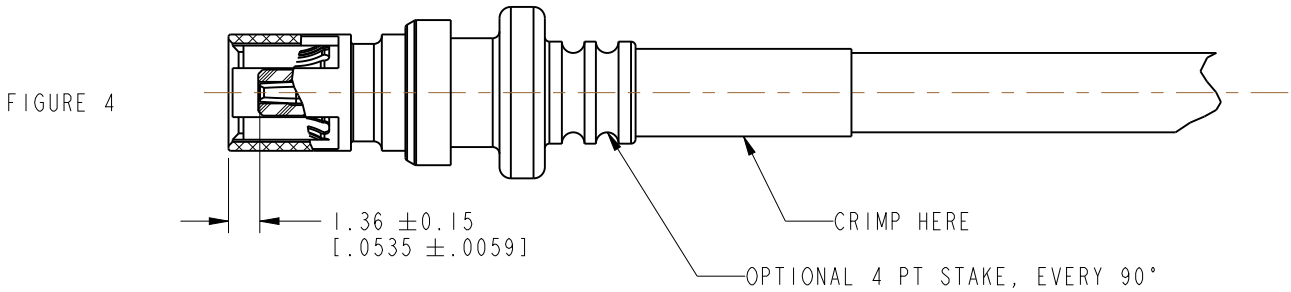

FIGURE 4
- OPTIONAL LEONI DACAR 462-2 CABLE PROCESSING MAY REQUIRE ADDITIONAL STAKING OPERATIONS FOR ENHANCED RF PERFORMANCE ABOVE 1 GHz. SEE FIGURES 4 & 9 - STAKE TO ACHIEVE INTERNAL BARREL ID 1.40mm. CONTACT FACTORY FOR ASSISTANCE.